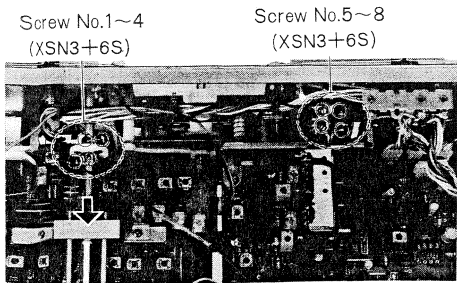

Fig. 20
2. Loosen the four (4) screws (nos. 1~4) for the joint, as shown in fig. 20.
3. Slide the joint in the direction of arrow, as shown in fig. 20.
6. Loosen the four (4) screws (nos. 5~8) for the joint, as shown in fig. 20.